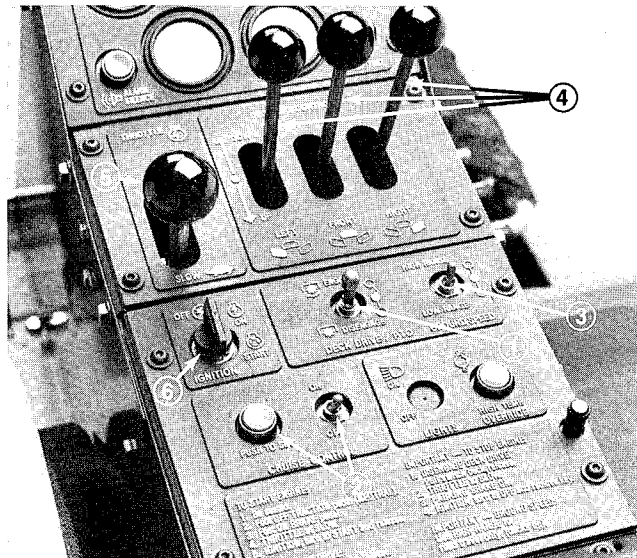

Figure 21
2. Rotate ignition key switch to START position (Fig. 21). Release key immediately when engine starts and allow it to return to RUN position.